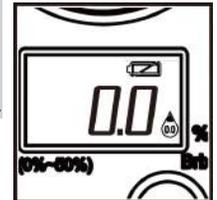

Fig. 2-1
- Be sure to perform zero setting each day before using the DBR-1 to make sure its accuracy. If DBR-1 is not carried out with zero setting properly, a zero setting indicator will appear as reminder. (Fig 2-1)